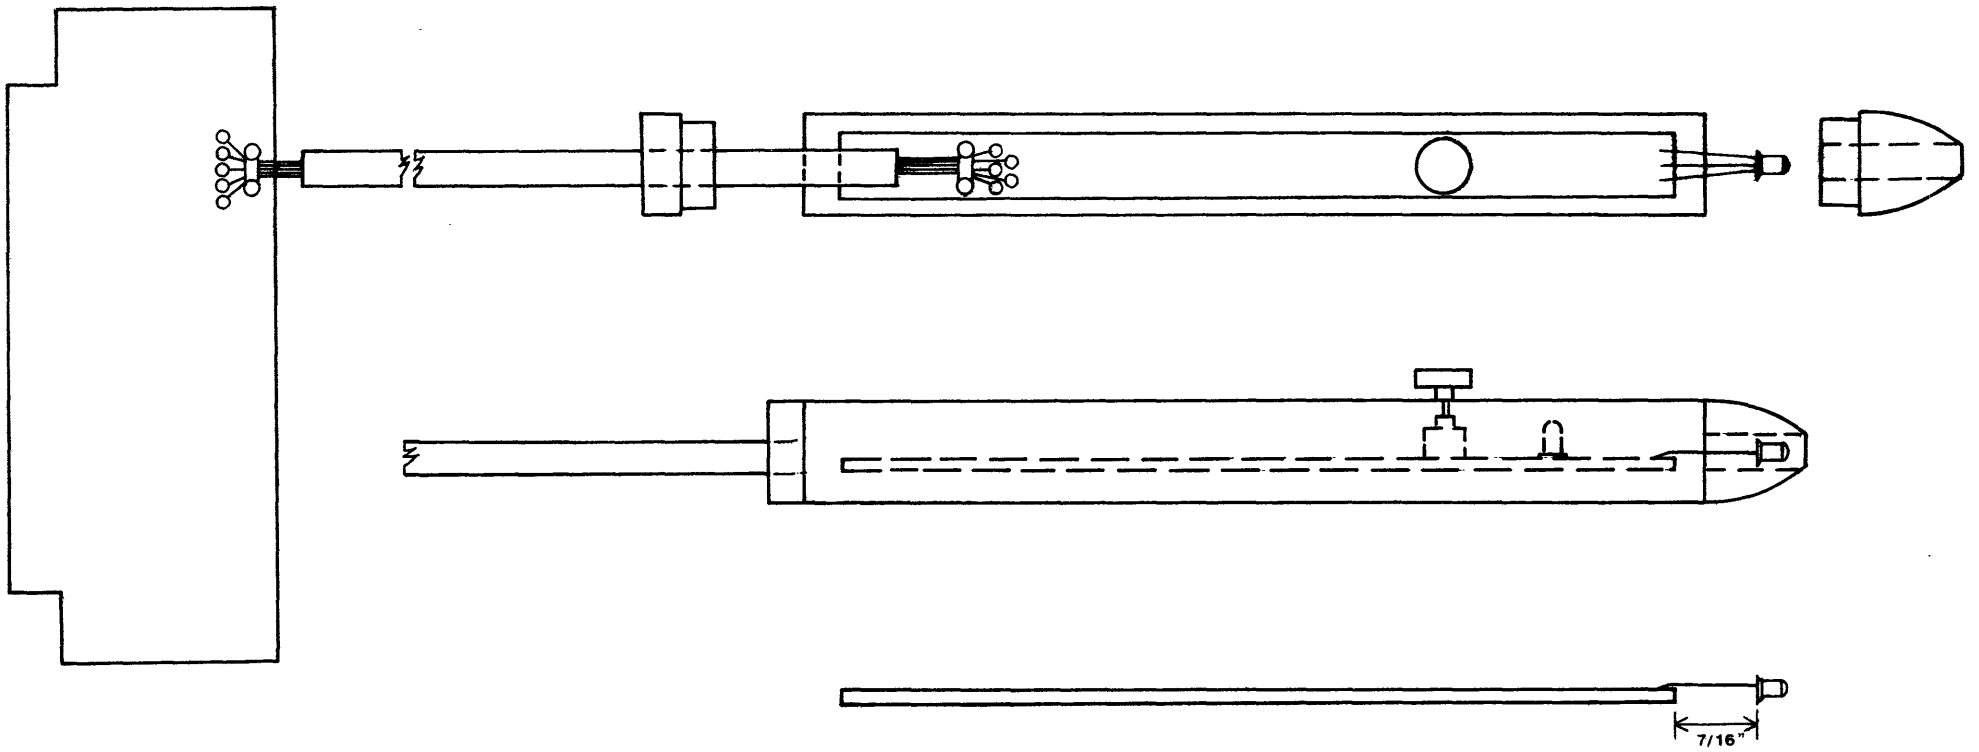

FIGURE 10. LIGHT PEN CONSTRUCTION
7. Refer to the Light Pen Construction diagram in Figure 10 before installing the phototransistor. If the phototransistor is installed too close to the circuit board, the operation of the Light Pen will be effected since detection of light as it passes over the hole in the end cap is diminished. The emitter lead (nearest the tab) is connected to hole number 2, the base to the center hole, and the collector to hole number 1.
10. Push the free end of the cable through the hole in the flat end cap so that the smaller diameter section is toward the circuit board. Refer to the Light Pen Construction in Figure 10.